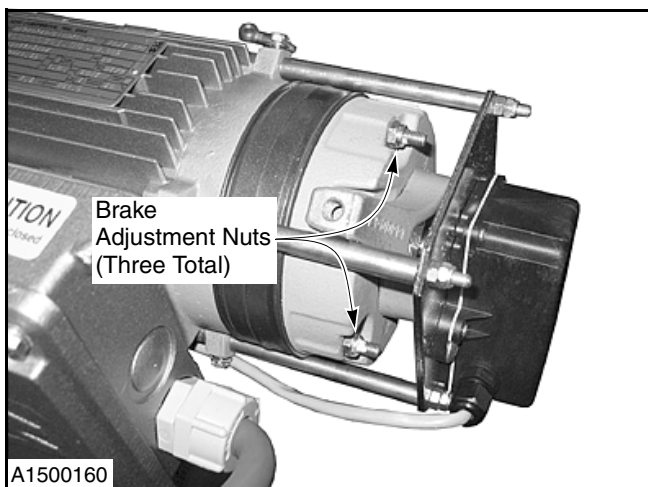

Figure 32
3. To adjust the brake, first securely tighten all brake adjustment nuts. Then back off each nut 1/2 turn counterclockwise. (See Figure 32.)